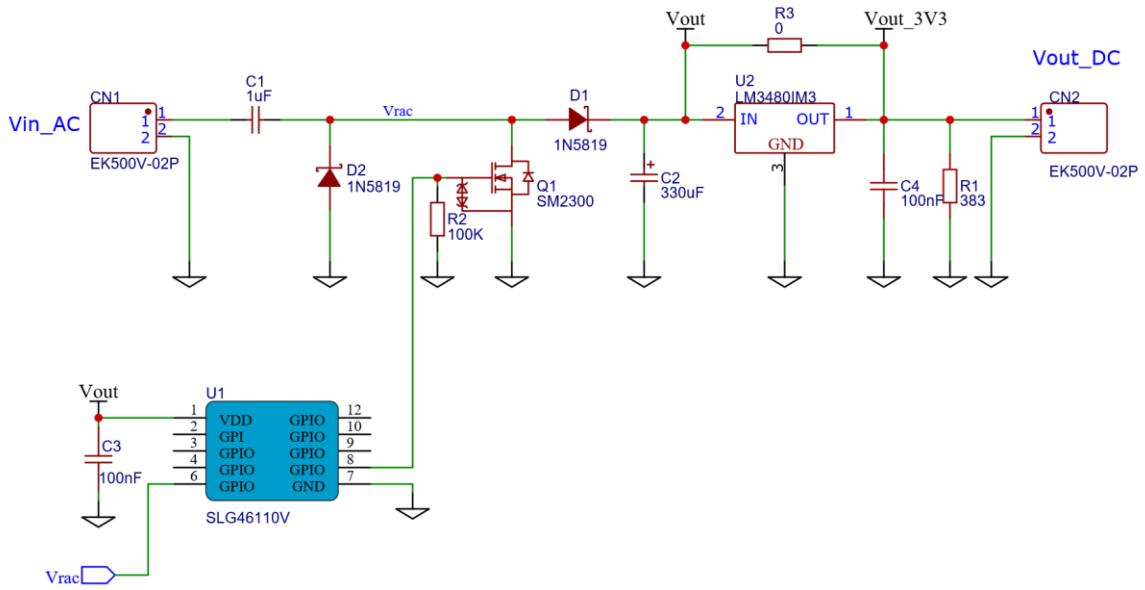
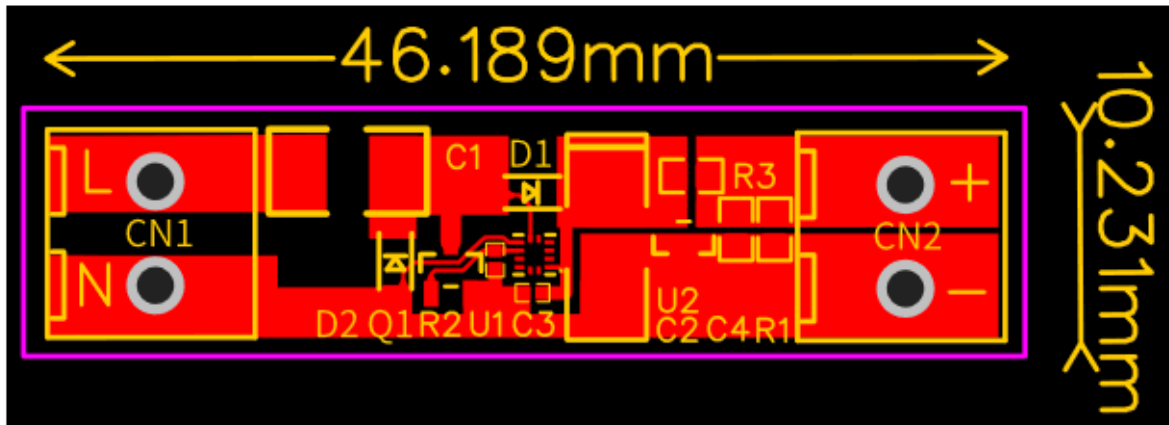
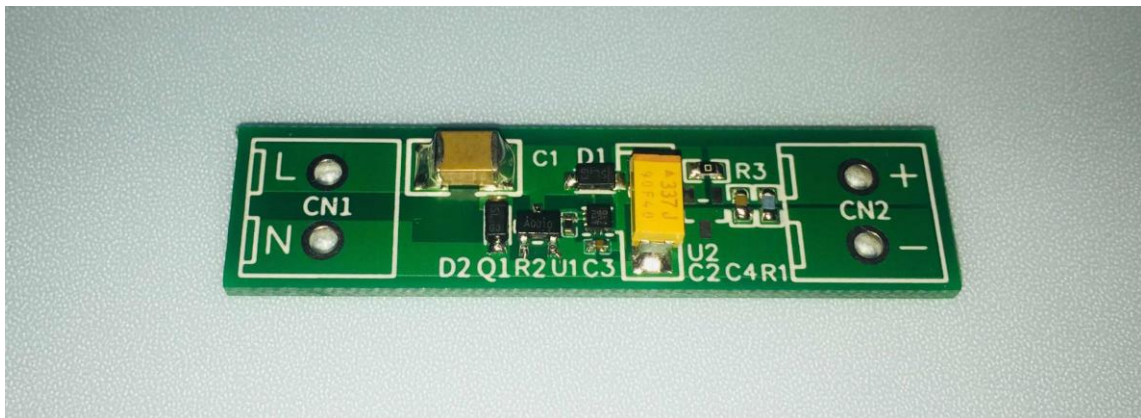
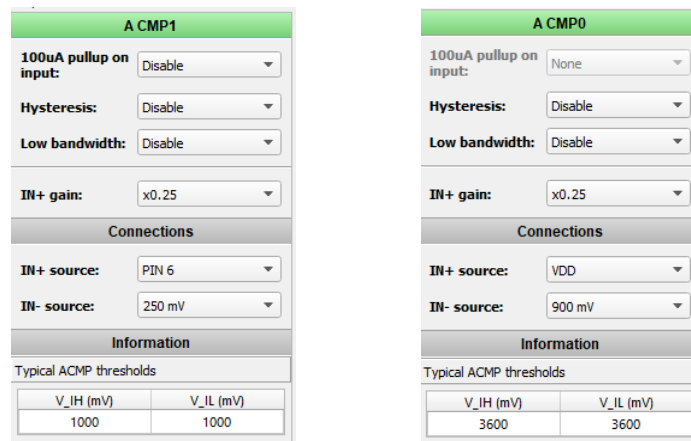

Figure 3: CCSS Regulator Schematic
Figure 4: CCSS Regulator PCB Layout
Figure 5: CCSS Regulator Prototype
Figure 7: ACMP0 and ACMP1 Configuration Settings
Figure 3 depicts the circuit schematic of the low power AC-DC converter module. It uses the SLG46110 (U1) to control the CCSS. The module operates at an input AC voltage range from 90V to 260V(CN1), and over a non-isolated output of 3.3V (CN2). An optional LDO (U2) is added after the  $V_{out}$  to further stabilize the output voltage. The SLG46110 device generates the control signal that switches the MOSFET shunt (Q1) based on the  $V_{out}$  and  $V_{rac}$  threshold levels. 1N5817 Schottky diodes were used for D1 and D2. Since the dissipation factor (DF) of  $C_s$  has a large effect on the efficiency of the circuit, a  $1\mu F$  capacitor with a relatively small DF of  $40 \times 10^{-4}$  is used for  $C_s$ . Figure 4 shows a picture of the PCB Layout of the board. Figure 5 shows a photograph of the complete design PCB described in this app note.
As shown on Figure 3 VDD of the SLG46110 device is connected to  $V_{out}$  and PIN6 to  $V_{rac}$ . ACMP0 is used to sense  $V_{out}$  voltage. With the additional logic, it will turn off the MOSFET shunt when  $V_{out} < 3.6V$ . ACMP1 is used to sense  $V_{rac}$  voltage. It will turn on the MOSFET shunt when  $V_{rac} < 1V$ . Refer to Figure 7 for the ACMPs settings.